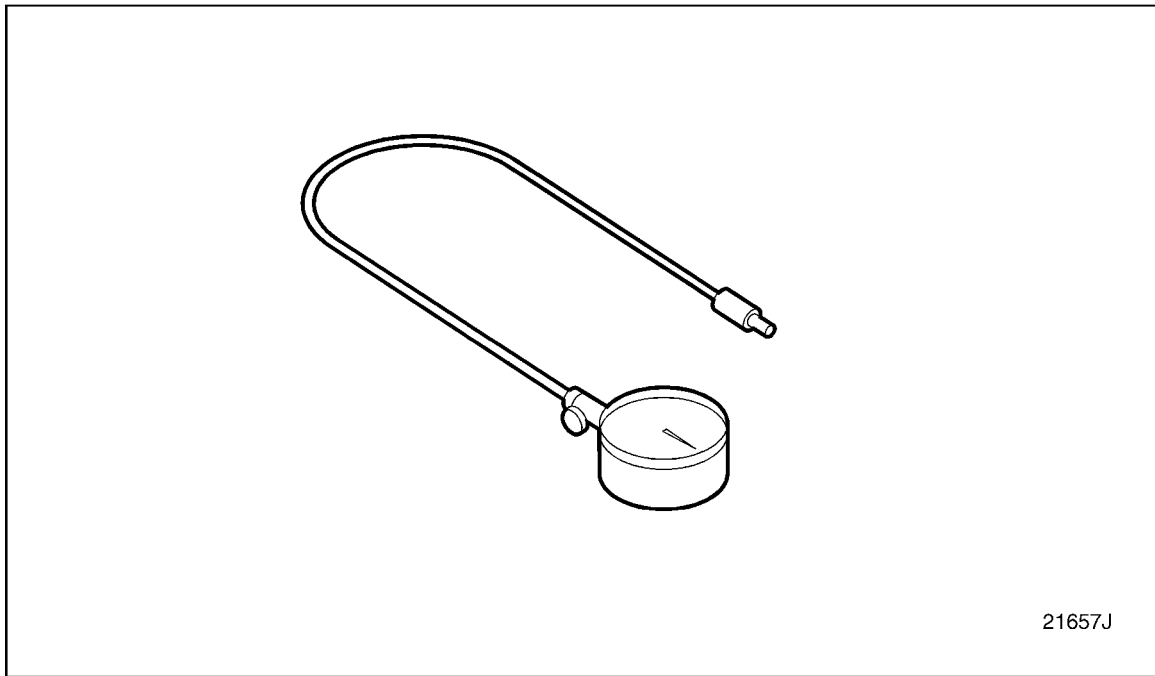

Figure 10-4 Attach Cylinder Compression Gauge J 6692-B
18. Attach cylinder compression gauge (J-6692-B) to the first adaptor. See Figure 10-4.